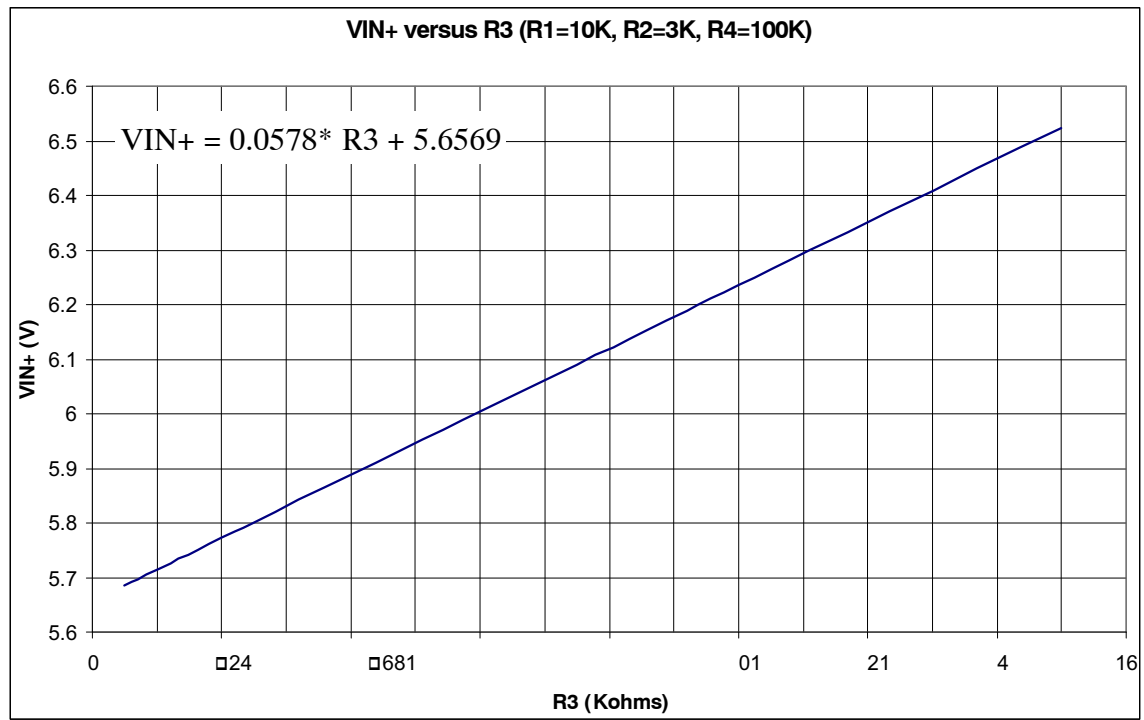
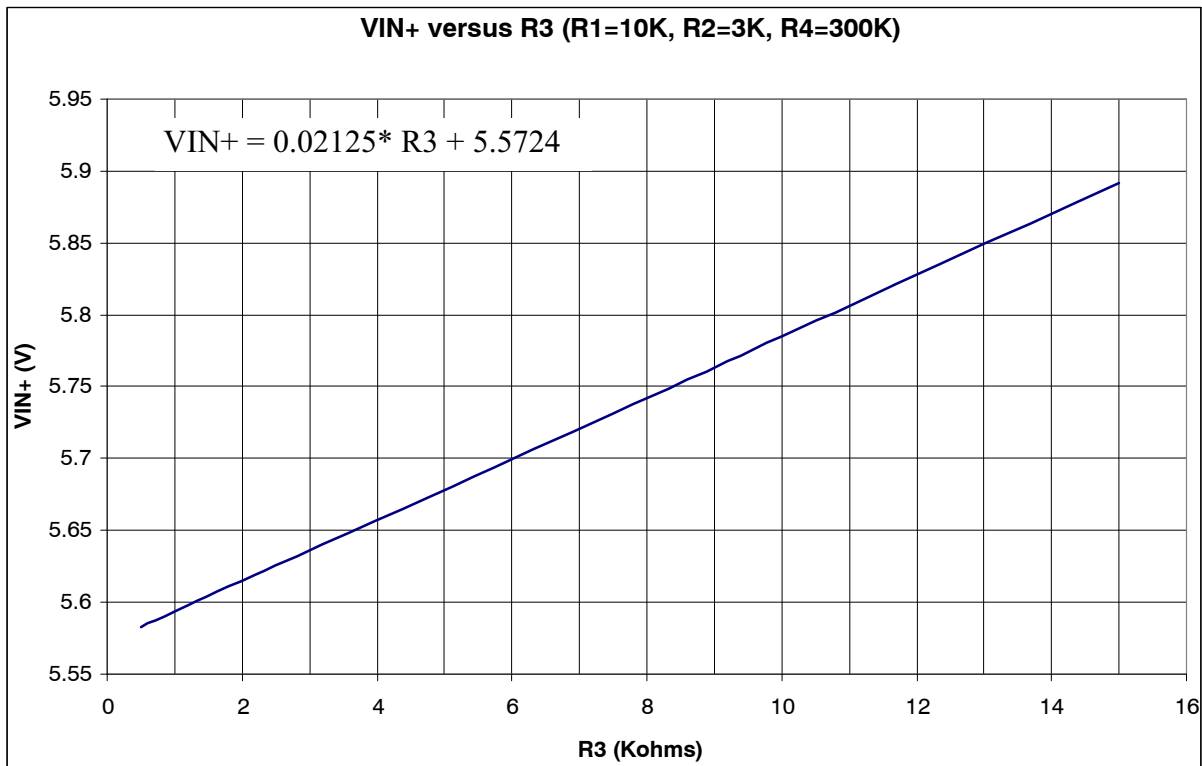
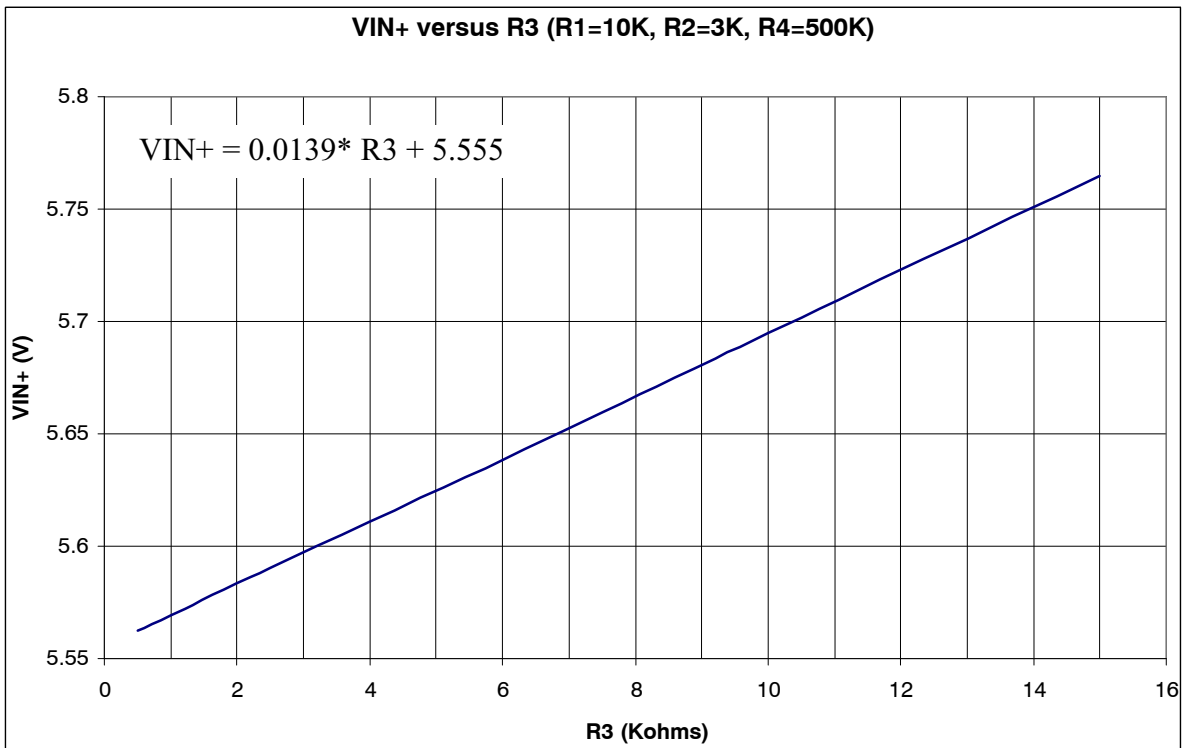

Figure 5. Chart for  $V_{IN+}$  versus R3
Figure 11. Chart for  $V_{IN+}$  versus R3 (R4 = 300k)
Figure 13. Chart for  $V_{IN+}$  versus R3 (R4 = 500k)
4. From Figure 5 (if  $R4 = 300k$ , use Figure 11. If  $R4 = 500k$  use Figure 13) chart with make use of the equation provided, evaluate  $V_{IN+}'$  based on the  $R3$  which is defined at step 3, say  $V_{IN+}'$ . It should be noted that the  $V_{IN+}'$  value here is NOT the one that will be used, it is just for intermediate value to proceed the calculation.
**Step 4:** From the Figure 5 chart with make use of equation, we have